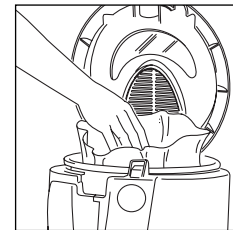

fig. 7
7. Place the filter supplied with the appliance in the bottom of the basket (fig. 7). Spare filters can be obtained from your dealer or from our service centres.